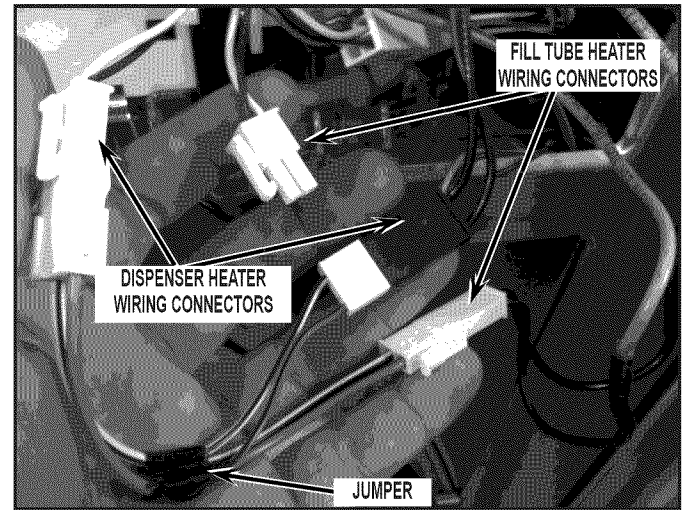

FIGURE 15
- Install "jumper". See *Figure 15*. Connect fill tube heater harness (2 pin connector) and dispenser heater harness (3 pin connector) into jumper. The opposite side of the jumper (3 pin connector) will be connected into the dispenser heater output harness.